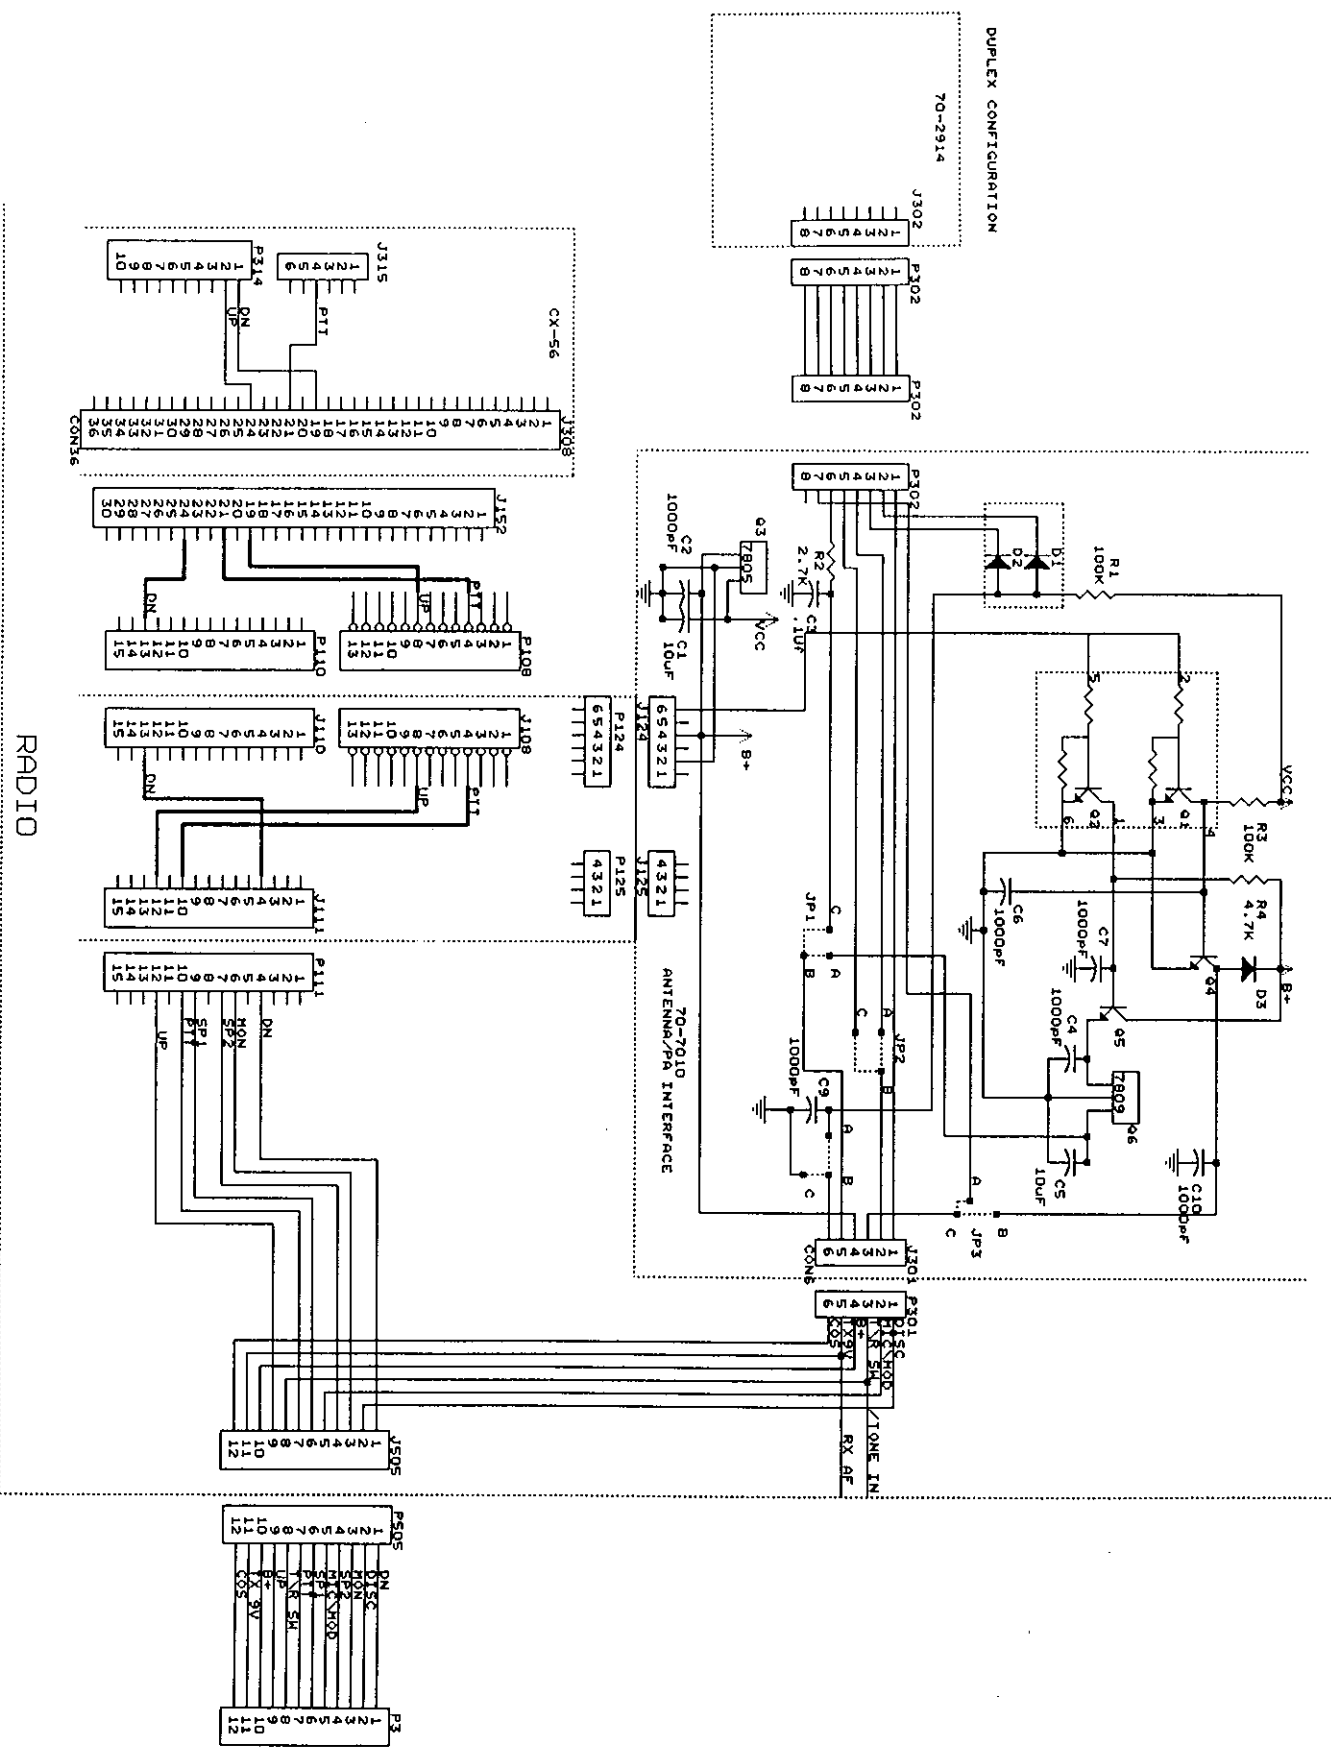

FIGURE 8
3. Remove the CX-55 Logic Board. Turn the board over to the solder side and locate R1001, and solder the 10K chip resistor in this position. Replace the CX-55 board. Refer to Figure 8.